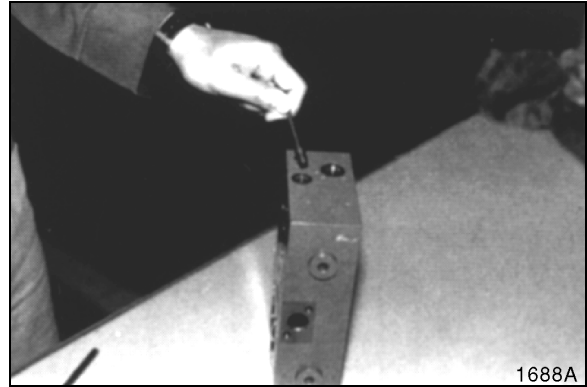

Figure 94
3. Install valve seat and torque to 6.4 Nm (4.7 ft lb). See Figure 94.